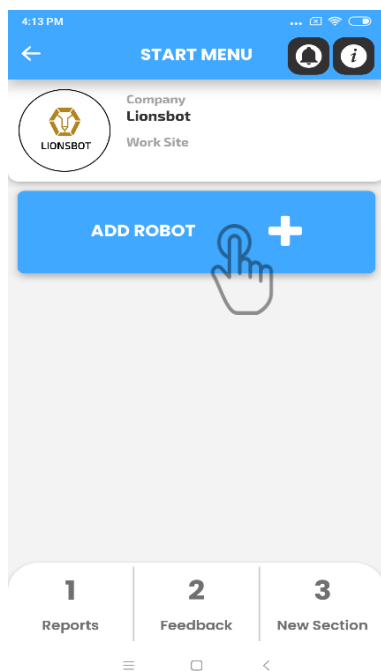

Fig. 1
1. Click on 'ADD ROBOT' on the Robot and Facility page (Fig. 1).